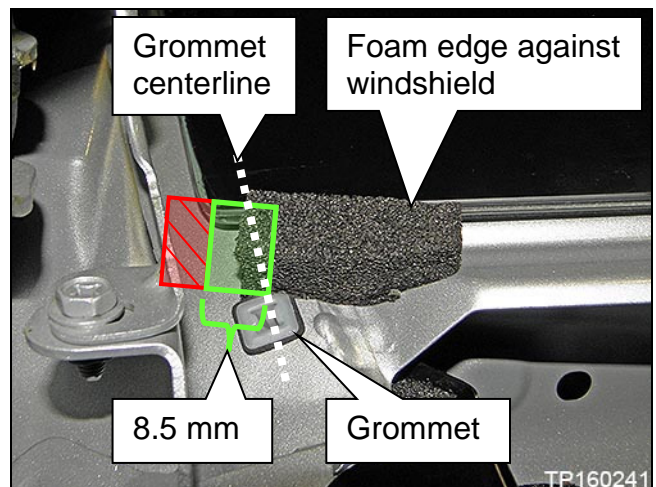

Figure 10
- b. Find the centerline of the farthest left “cowl cover assembly grommet” (grommet) shown in Figure 10.
- c. Measure 8.5 mm from the grommet centerline to the left (Figure 10).
- e. Align foam block against the lower edge of the windshield and left hand edge within the 8.5 mm area (Figure 10).